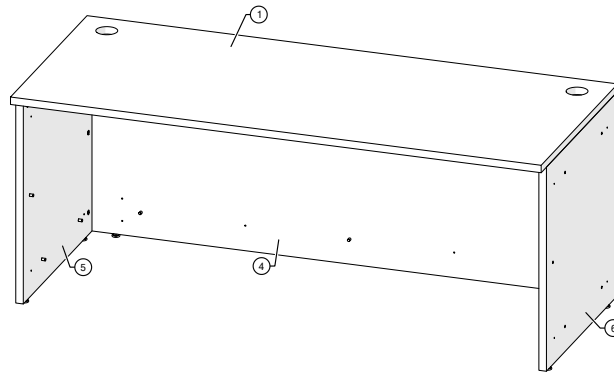

Figure 9
- 11.** Flip the assembled desk upright position; level and adjust the glides, if necessary (Figure 9).